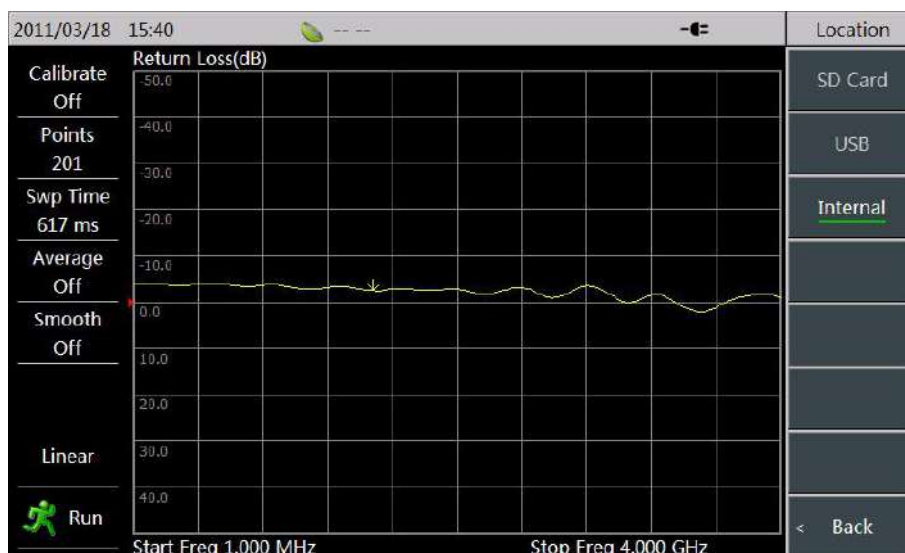

Figure 5-1 Storage Location Selection
- Click corresponding storage location menu on storage location menu bar and complete storage location setting, as shown in Figure 5-1: